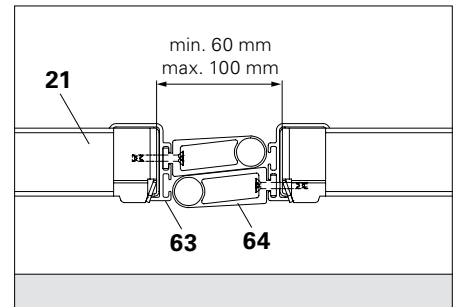

Fig. C2.12b
Mount Draw-In Profile LPS 18/93 (64) on one side. (Fig. C2.12b)